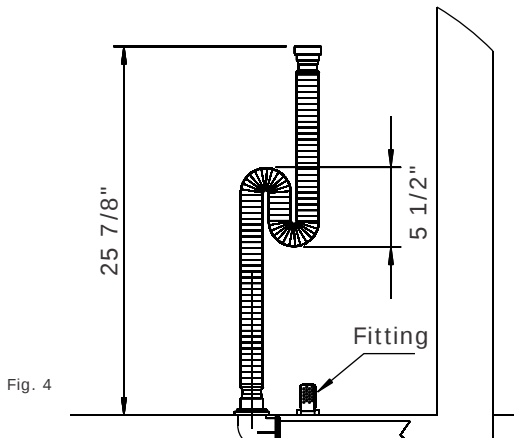

Fig. 4
- Fold the siphon so it can be installed to the valve according to Fig 4 given below: